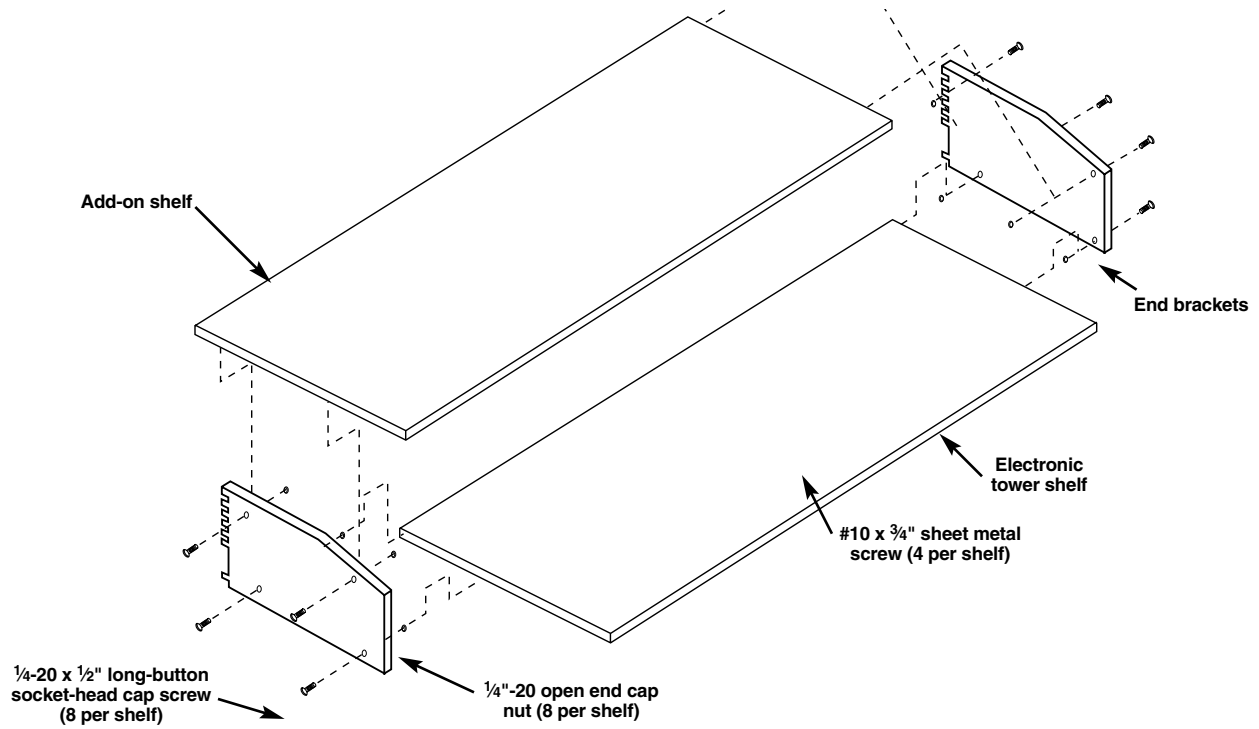

Figure 3-16. Assembling the Add-On Shelf Tower.
5. To attach the shelves to the end brackets, line up the slots at the end of the shelf with screws and slide the shelf over the screws. (See Figure 3-16.) Once the shelf is in place, tighten the cap nuts.